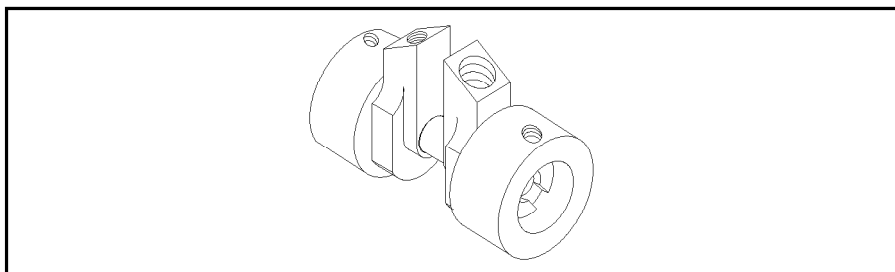
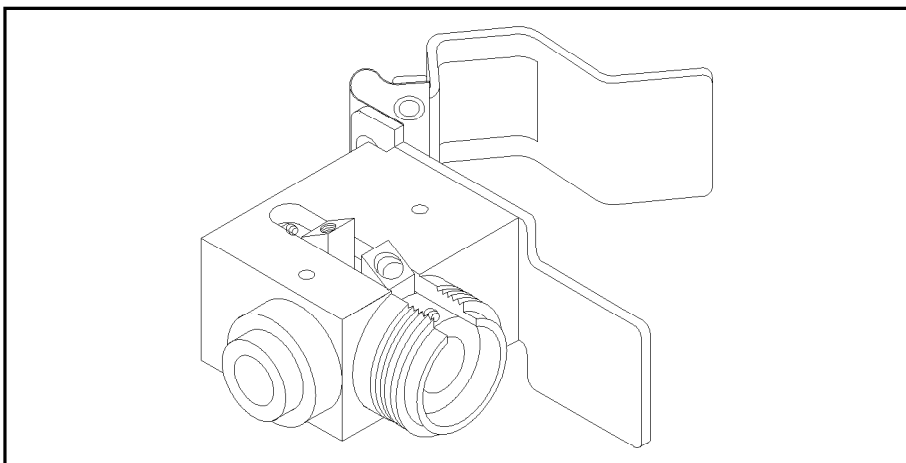

Figure 4-23. Placing Flow Chamber Between Gaskets
Figure 4-24. Placing Flow Chamber into Flow-Cell Housing
10. Place the flow chamber between the two gaskets, see Figure 4-23.
1. Holding the cell pieces together, slide the flow chamber (as assembled in step 10, of stage 4, shown in Figure 4-23) into the flow-cell housing, see Figure 4-24.